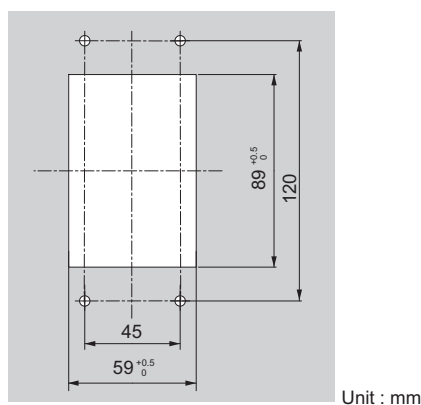

Figure 2.10 Panel Cut-Out Dimensions (Internal/Flush-Mount Installation)
1. Cut an opening in the enclosure panel for the digital operator as shown in Figure 2.10.